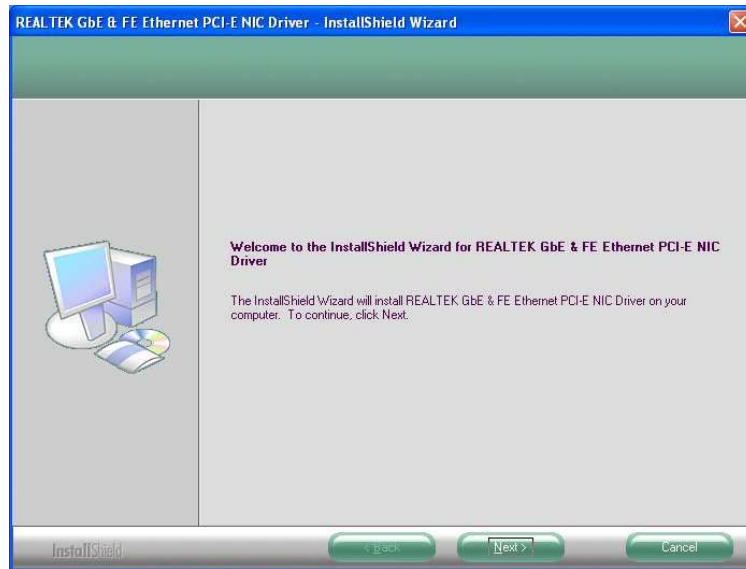

Figure 7-16: Realtek LAN Driver InstallShield Wizard
Step 7: Click **NEXT** to continue to the install screen (Figure 7-16).